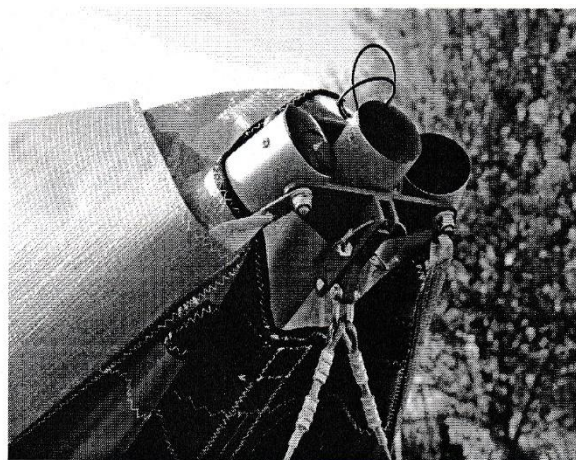

Figure 11
7. Attach the bottom front wires and secure the nose catch of the bottom wires on the nose junction channel using the clevis pin and the safety ring (fig. 11).